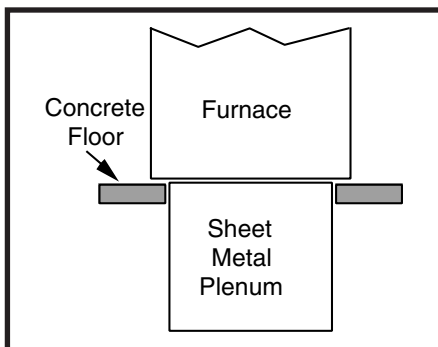

Figure 17. Furnace on a Concrete Slab
2. Position the plenum and the furnace as shown in Figure 17.